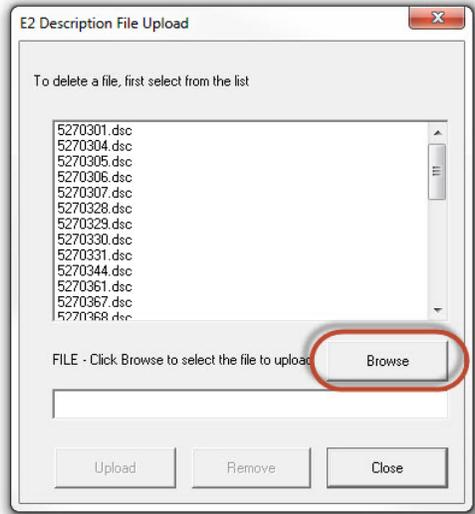

Figure 2 - Locate .dsc File
3. Press **Menu**, **7**, **9** to access the License Manager Screen (Figure 2).